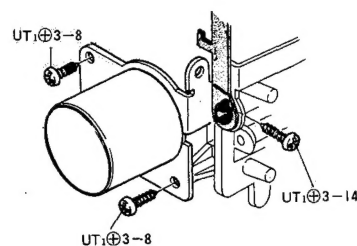

Fig. 10
- 1) Remove the 3 screws. (See figure 10)
- 1) Remove the 3 screws from the motor holder. (See figure 10)